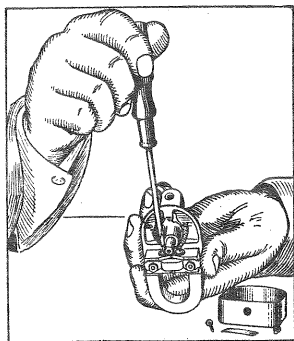

Fig. 28—Adjusting Electric Pickup.
d. Slide the magnet back onto the under side of the pole pieces as shown in Fig. 28.
e. Loosen both round head screws in the armature adjusting plate with a small screw driver as shown in Fig. 28.